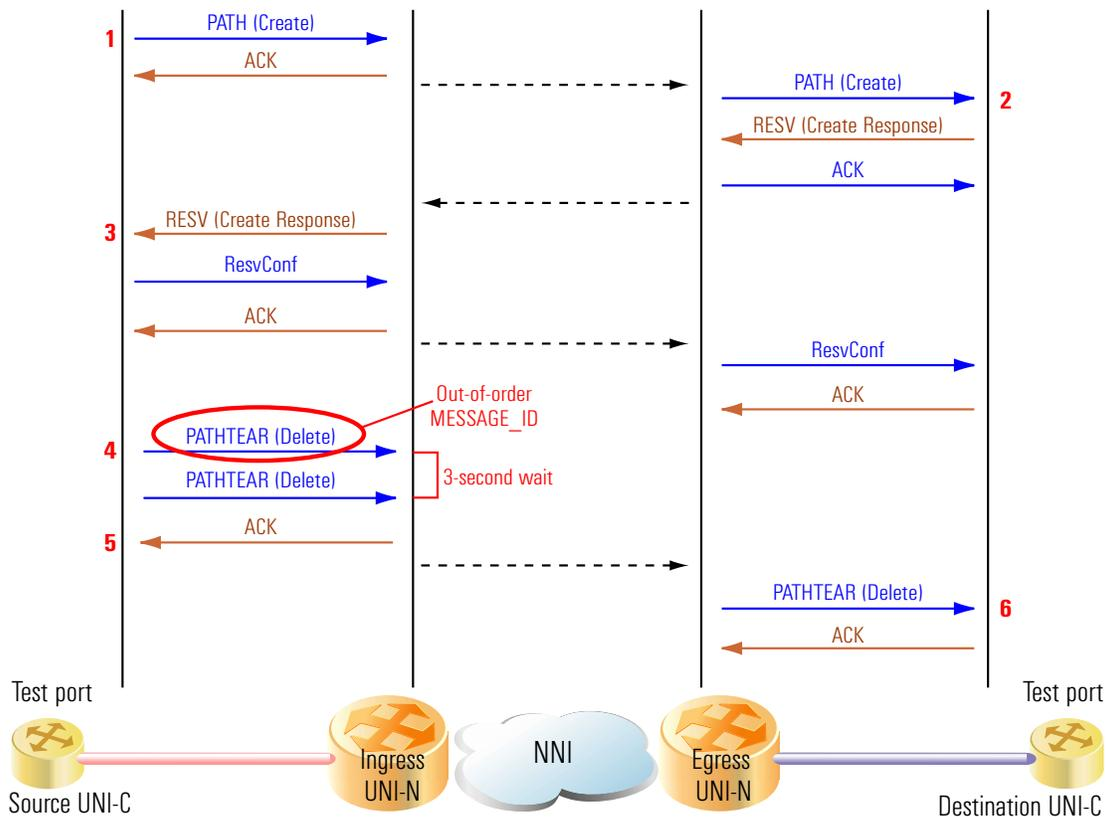

Figure 2: Example of conformance testing
- 3 Run conformance test suites to verify conformance to early OIF UNI or GMPLS protocol specifications (see Figure 2 below).